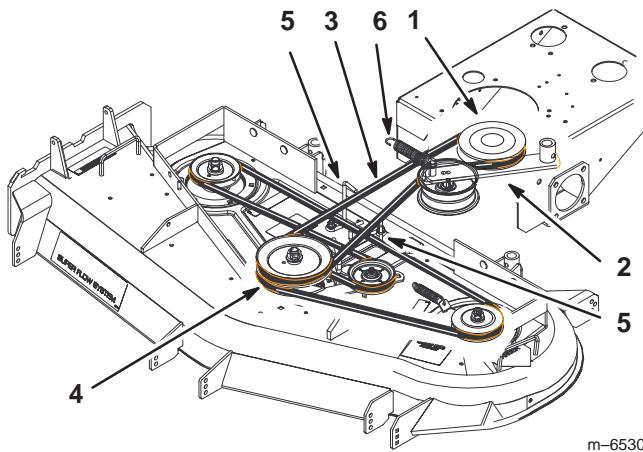

Figure 68
4. Remove the idler spring from idler arm. Remove the drive belt from the PTO engagement pulley and the center spindle pulley (Fig. 68).
5. Remove the worn drive belt (Fig. 68).
6. Install the new drive belt onto the PTO engagement pulley and the top groove of the center spindle pulley (Fig. 68).
7. Install belt onto idler pulley and then install idler spring (Fig. 68).
8. Adjust PTO drive belt guides an 1/8 inch (3 mm) from belt (Fig. 68).